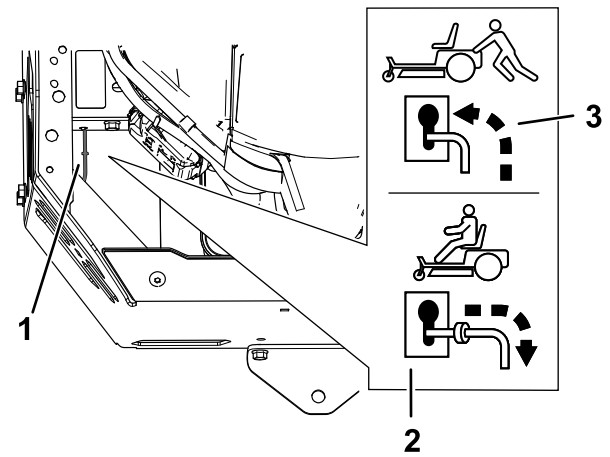

Figure 37
4. Move the bypass levers forward through the key hole and down to lock them in place (Figure 37).
Move the bypass levers rearward through the keyhole and down to lock them in place as shown in Figure 37.